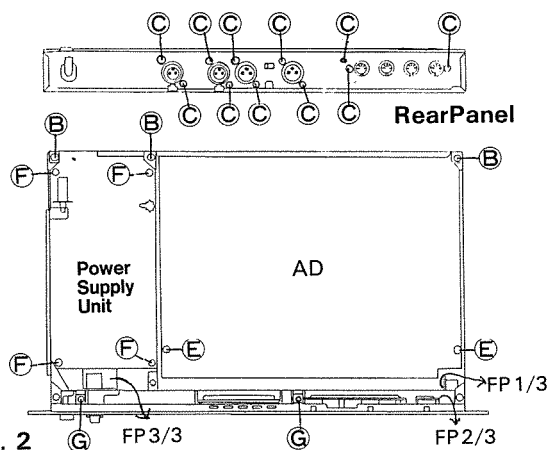

Fig. 2
- (1) Remove the top cover. (Refer to 1. Removal of Top Cover)
- (2) Remove the rear panel. (Fig. 2, 3)
- (3) Remove the 2 screws **E** (3×6 bind tapping screw) and disconnect all connectors on the AD circuit board, and remove the AD circuit board. (Fig. 2)
- (2) Remove the 4 screws **F** (3×6 bind tapping screw) and disconnect 2 connectors on the power supply unit, and remove the power supply unit. (Fig. 2)
- (2) Remove the front panel. (Fig. 2, 3)